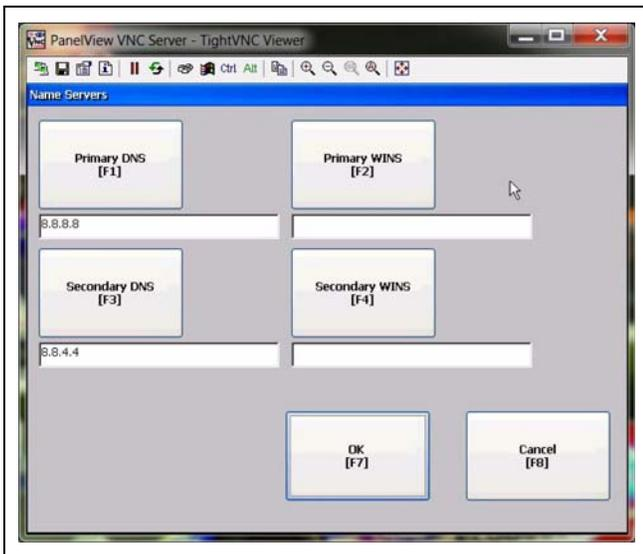

Figure 4H
8. Typical DNS settings using Google's DNS servers are seen below. Press Primary DNS or Secondary DNS to make changes. (See Figures 4H and 4I.)